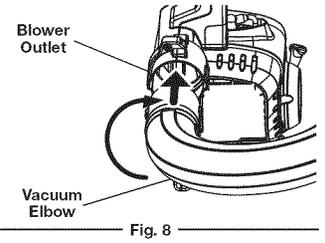

Fig. 8
1. While facing the front of the unit, hold the keyed end of the vacuum elbow in your left hand and the flared end in your right hand. Align the lock tabs on the keyed end with the lock tabs on the blower outlet. (Fig. 8)
2. Insert the vacuum elbow into the blower and turn clockwise until it locks into place. (Fig. 8)